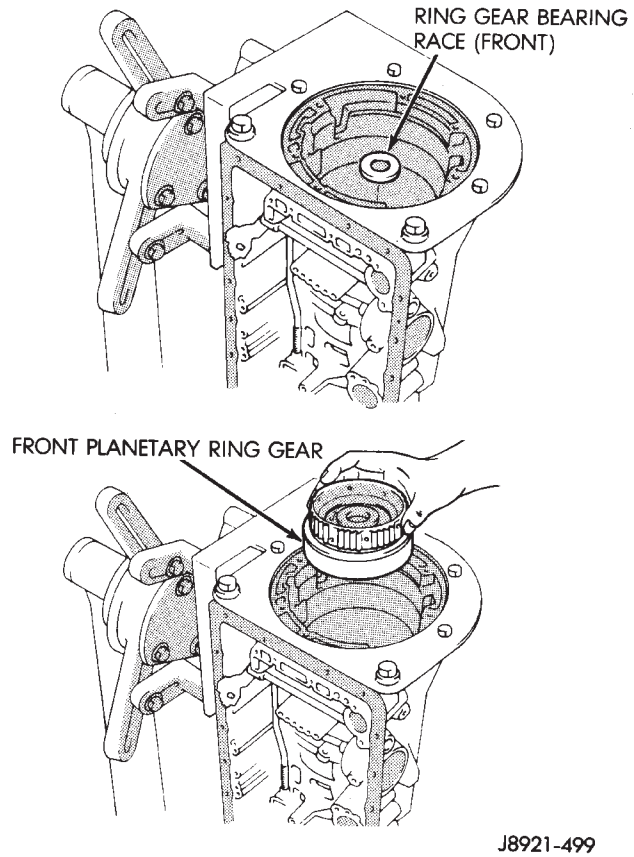

Fig. 33 Front Planetary Ring Gear Removal
(41) Remove front planetary ring gear front bearing race and remove front planetary ring gear (Fig. 33).